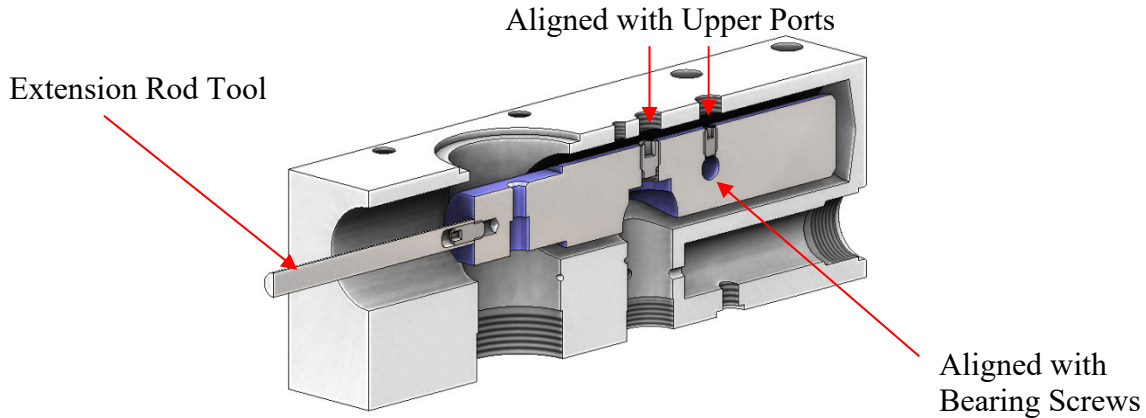

Figure 48: Beam Alignment
3. Attach the beam extension rod tool to the beam. See Figure 48.
- a) Make sure that the beam is facing the correct directions, as seen in Figure 48; notice the set screw ports are on top.